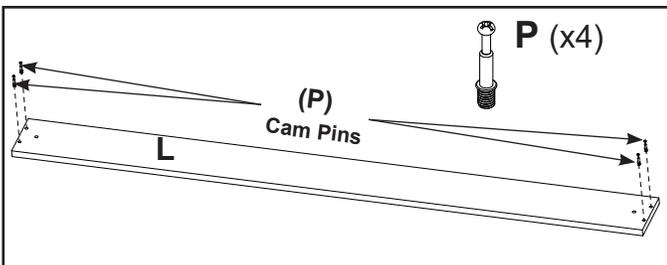

Figure 29
- Install four (4) Cam Pins (P) onto part "L" in the locations shown in Figure 29. Refer to Step 1 on page 2.